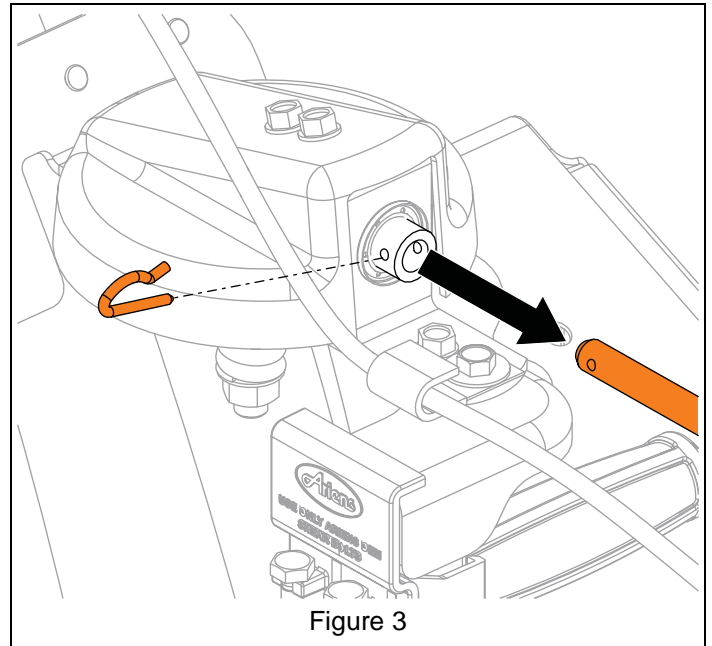

Figure 3
3. Remove cable hanger from chute rotation rod. See Figure 3.